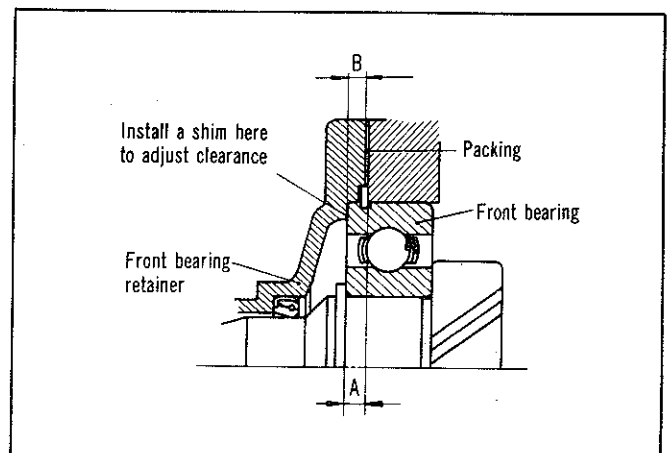

Fig. 25—Front bearing retainer clearance adjustment
(33) Prior to installing the bearing retainer check the dimensions A and B, Fig. 25, and adjust the retainer-to-bearing clearance to specifications as follows: